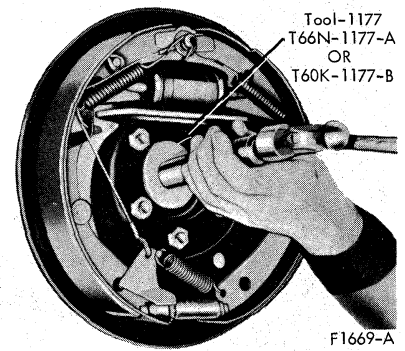

FIG. 4 Installing Rear Wheel Bearing Oil Seal
5. Install the new oil seal with the tools shown in Fig. 4. Wipe a small amount of oil resistant sealer on